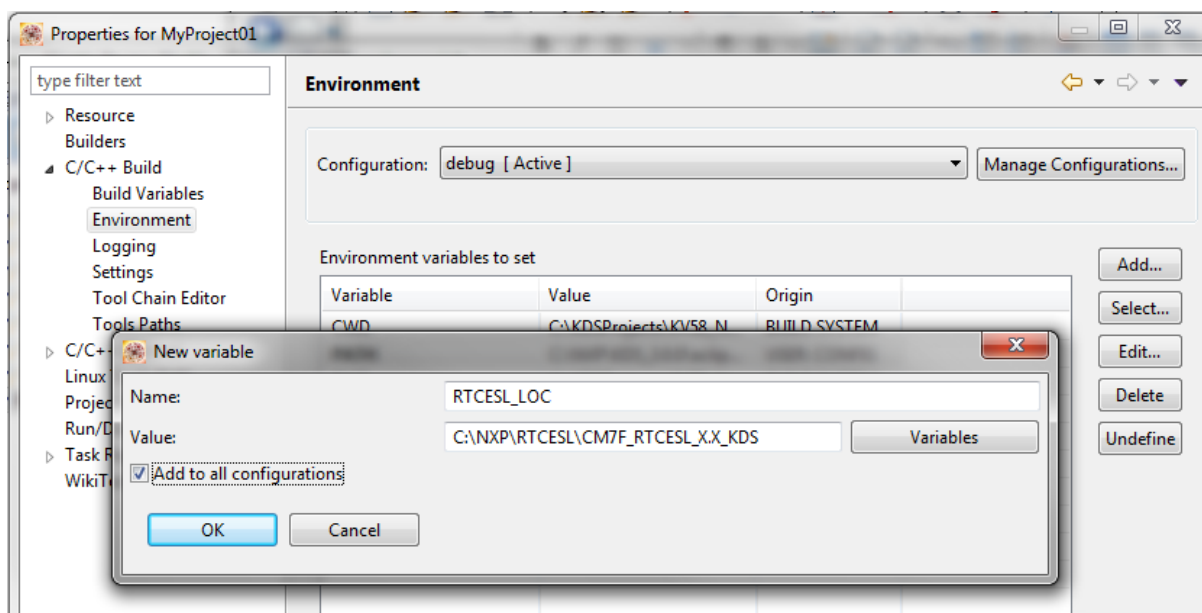

Figure 1-18. Environment variable
8. In the dialog that appears (see Figure 1-18), type this variable name into the Name box: RTCESL_LOC.
10. Tick the Add to all configurations box to use this variable in all configurations. See Figure 1-18.